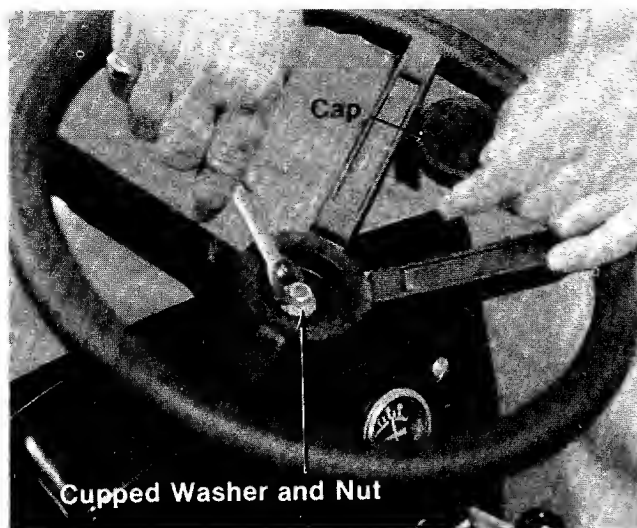

FIGURE 4.
1. Place the steering wheel over the steering column extending through the dash. Line up the flats on the steering column with the flats in the steering wheel. See figure 4.